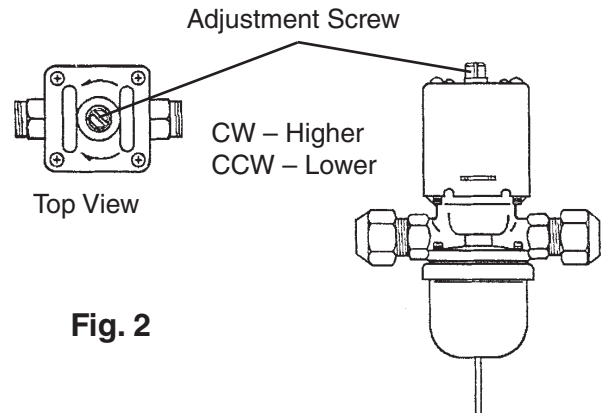

Fig. 2
- 2) Five minutes after a freeze cycle starts, confirm that the thermometer reads 104°F to 115°F (40°C to 46°C). If it does not, rotate the adjustment screw by using a flat blade screwdriver until the temperature is in the proper range. See Fig. 2. Next, check that the reference pressure is in the range indicated in the Head Pressure table in the Performance Data section. If it is not in the proper range, verify the refrigerant charge.